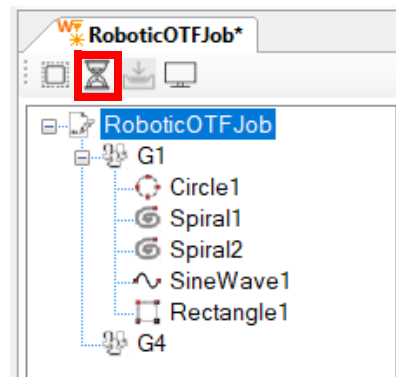

Figure 349: Timeline Button
2. Click the **Time Line** button at the Top of the Job Tree. See Figure 349 (below).